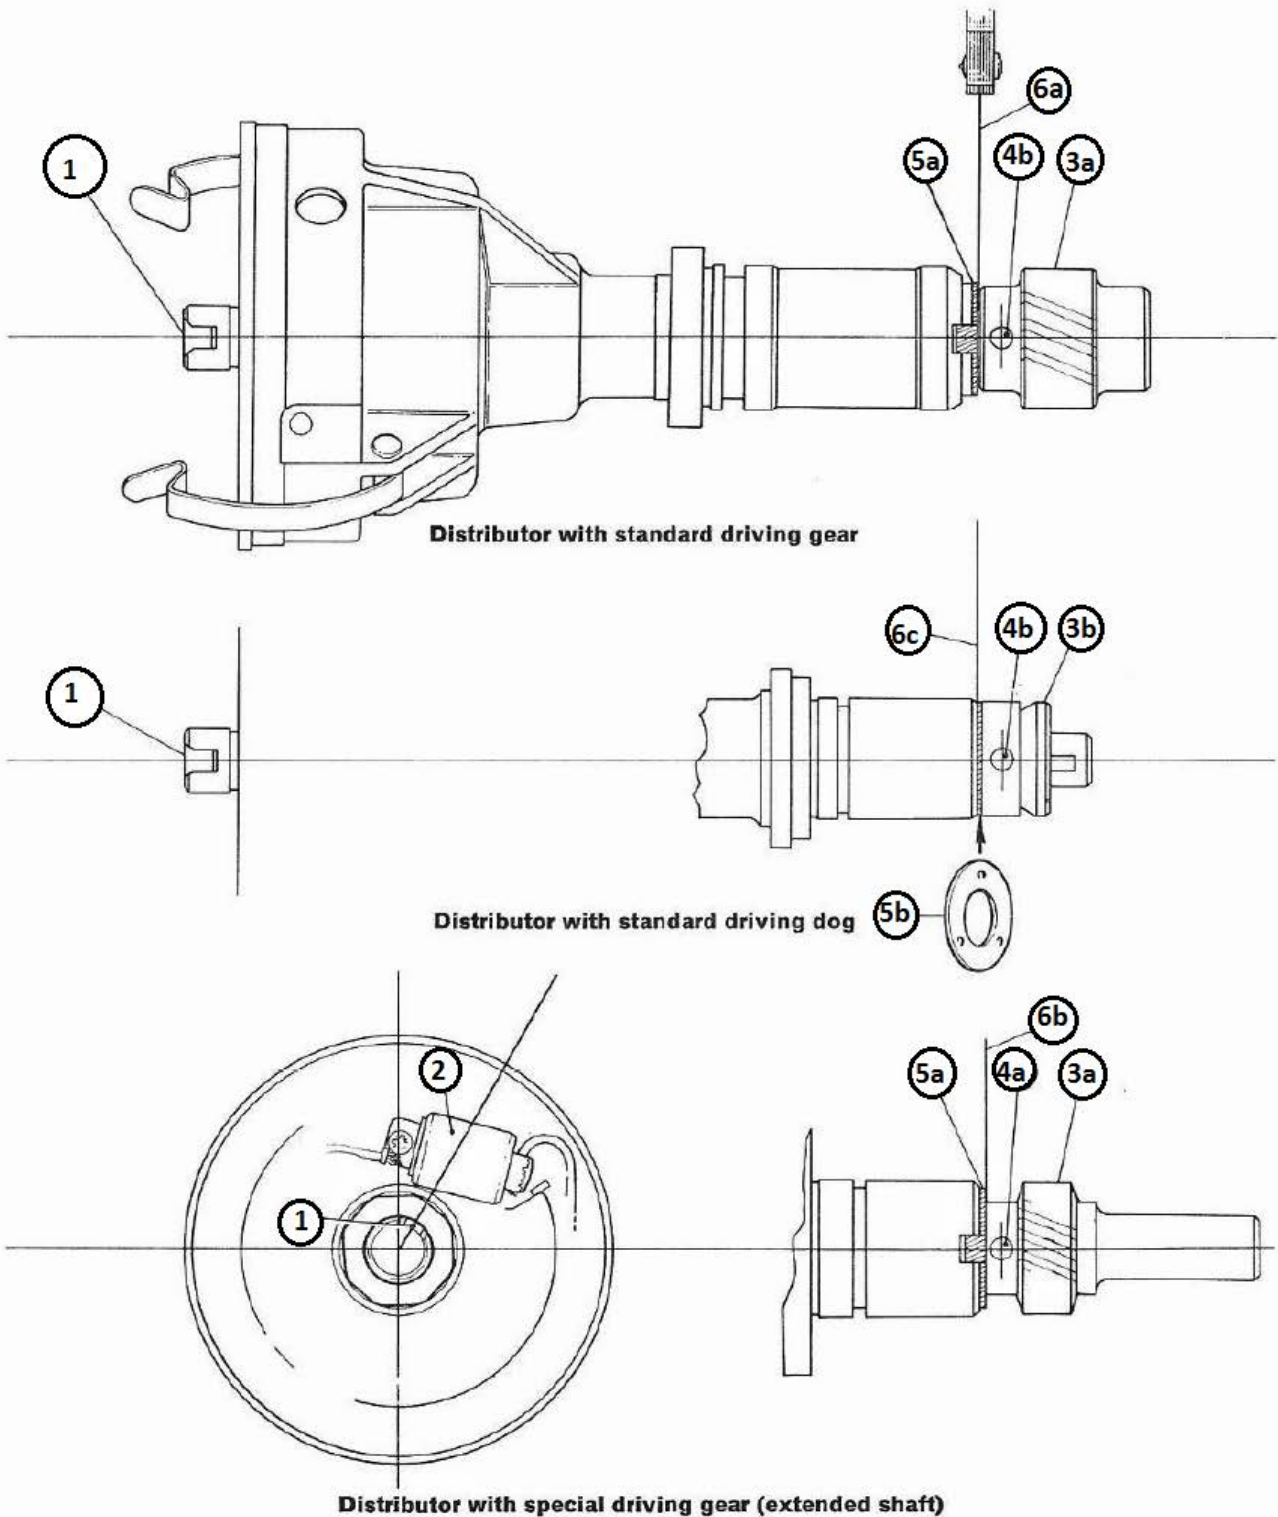

Fig. 5 Positioning driving dog or gear on distributor shaft
Note: Method of fixing may vary, and items 30 and 31 may be driving dog arrangement shown in Fig. 5.
Note: (1) The driving dog, or gear, is fitted in a particular position on the distributor shaft. To facilitate reassembly, before removing either the driving dog or the gear, note relative positions between the driving dog or gear and the rotor arm keyway in the shaft (see Fig. 5).